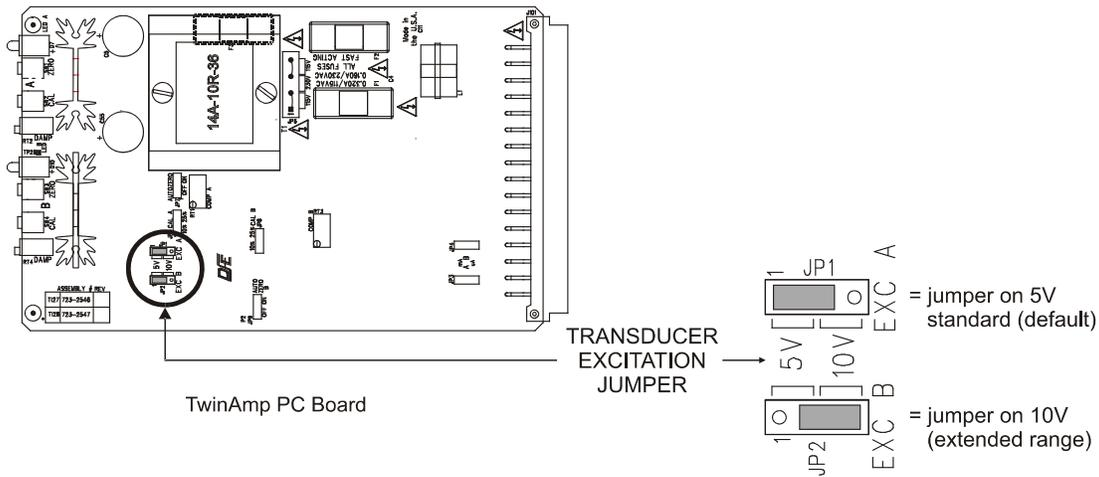

Figure 6 - TRANSDUCER VOLTAGE JUMPERS
2.5 TRANSDUCER VOLTAGE SELECTION (Refer to Figure 6)